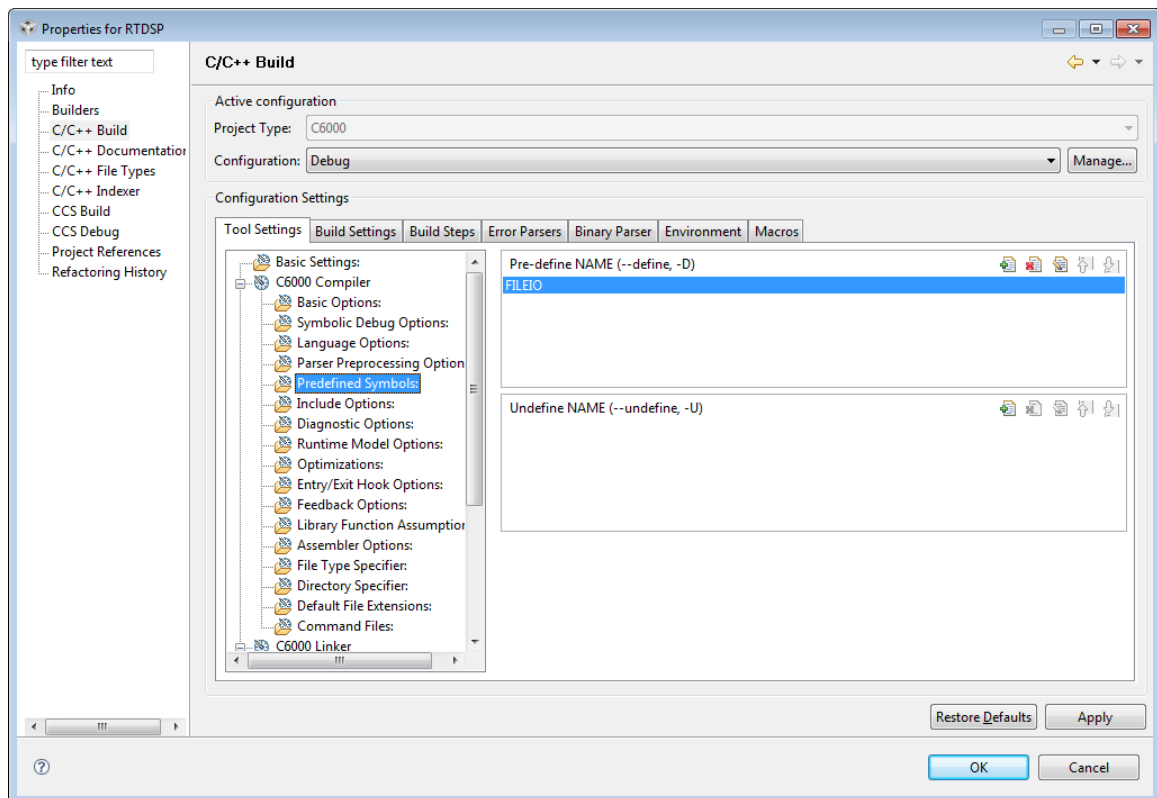

Figure 10: Properties window
- Put the cursor in the code window for *volume.c* then choose the menu **Project**→**Properties**. Click **C/C++ build** in the tree diagram. In the **C6000 compiler** section choose **Predefined Symbols**. Using the add button Type **FILEIO** in the **Pre-Define NAME** field (figure 10) Click **OK**. The C code after the `#ifdef FILEIO` statement in the program will now be compiled when you recompile the program. Click **Apply** then **OK**